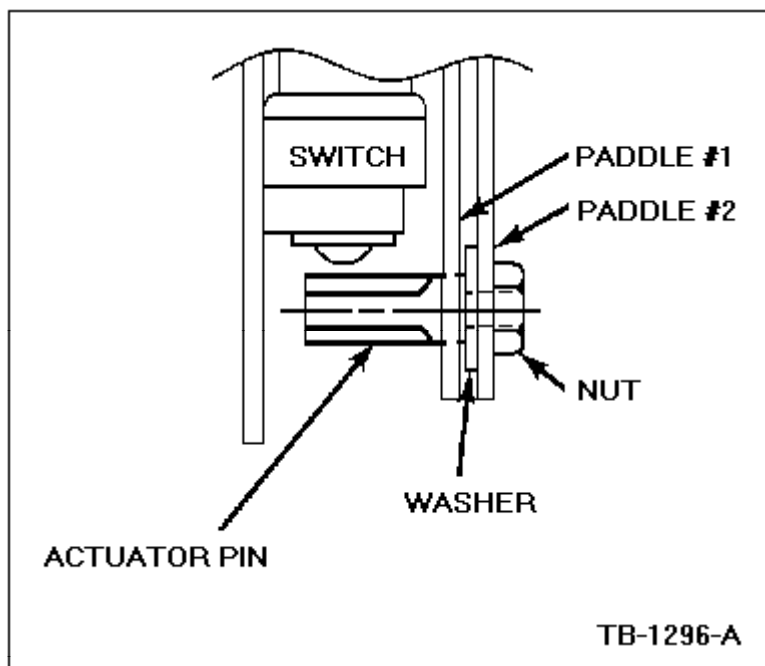

Figure 1 - Article 90-25-18
1. Loosen nut, Figure 1.
1. Start the threaded end of the actuator pin, Figure 1, through the rectangular slot in paddle #1.